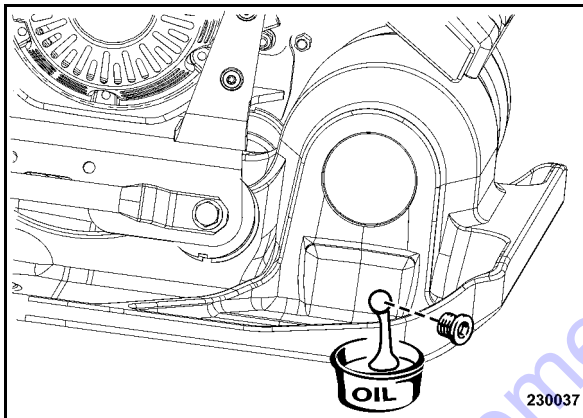

Fig. 72
- Unscrew plug (Fig. 72), catch old oil.